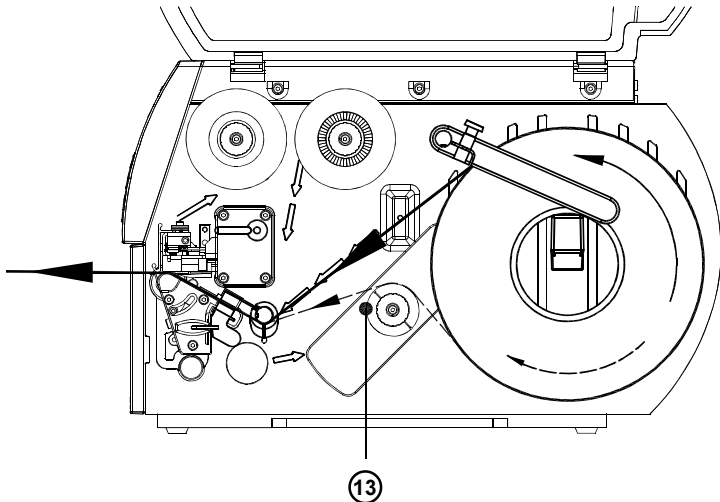

Fig. 7d Feed Path in Tear-off Mode
3. Place the media roll (8) onto the media hub (9) and unwind a strip of media (4) from the media roll. When operating in the rewind or peel-off mode make sure that the strip is long enough to reach the internal rewriter by guiding it through the whole print mechanism and underneath of it. Make sure the labels between the media hub and the print mechanism are facing up. Slide the roll onto the media hub (9) until it stops.
4. Swing the media retainer (11) downwards until it touches the media hub (9). Push the media retainer against the supply role until it rests against the label media. Tighten the knurled screw (10).
5. Raise the printhead assembly (2) by rotating the lever (7) clockwise until it stops.
6. Slide the media guide ring (6) outward, allowing enough clearance for the label stock's width when loaded.
7. Slide the media strip underneath the axle (5) and through the adjustable photocell assembly (3) until it comes out of the front of the printer. If you are using labels that are wound-in, please make sure that you slide the media strip over the internal rewind hub (13). In figure 7d the feed path for labels wound-out is represented by a solid line, and the feed path for wound-in labels is represented by a broken line.